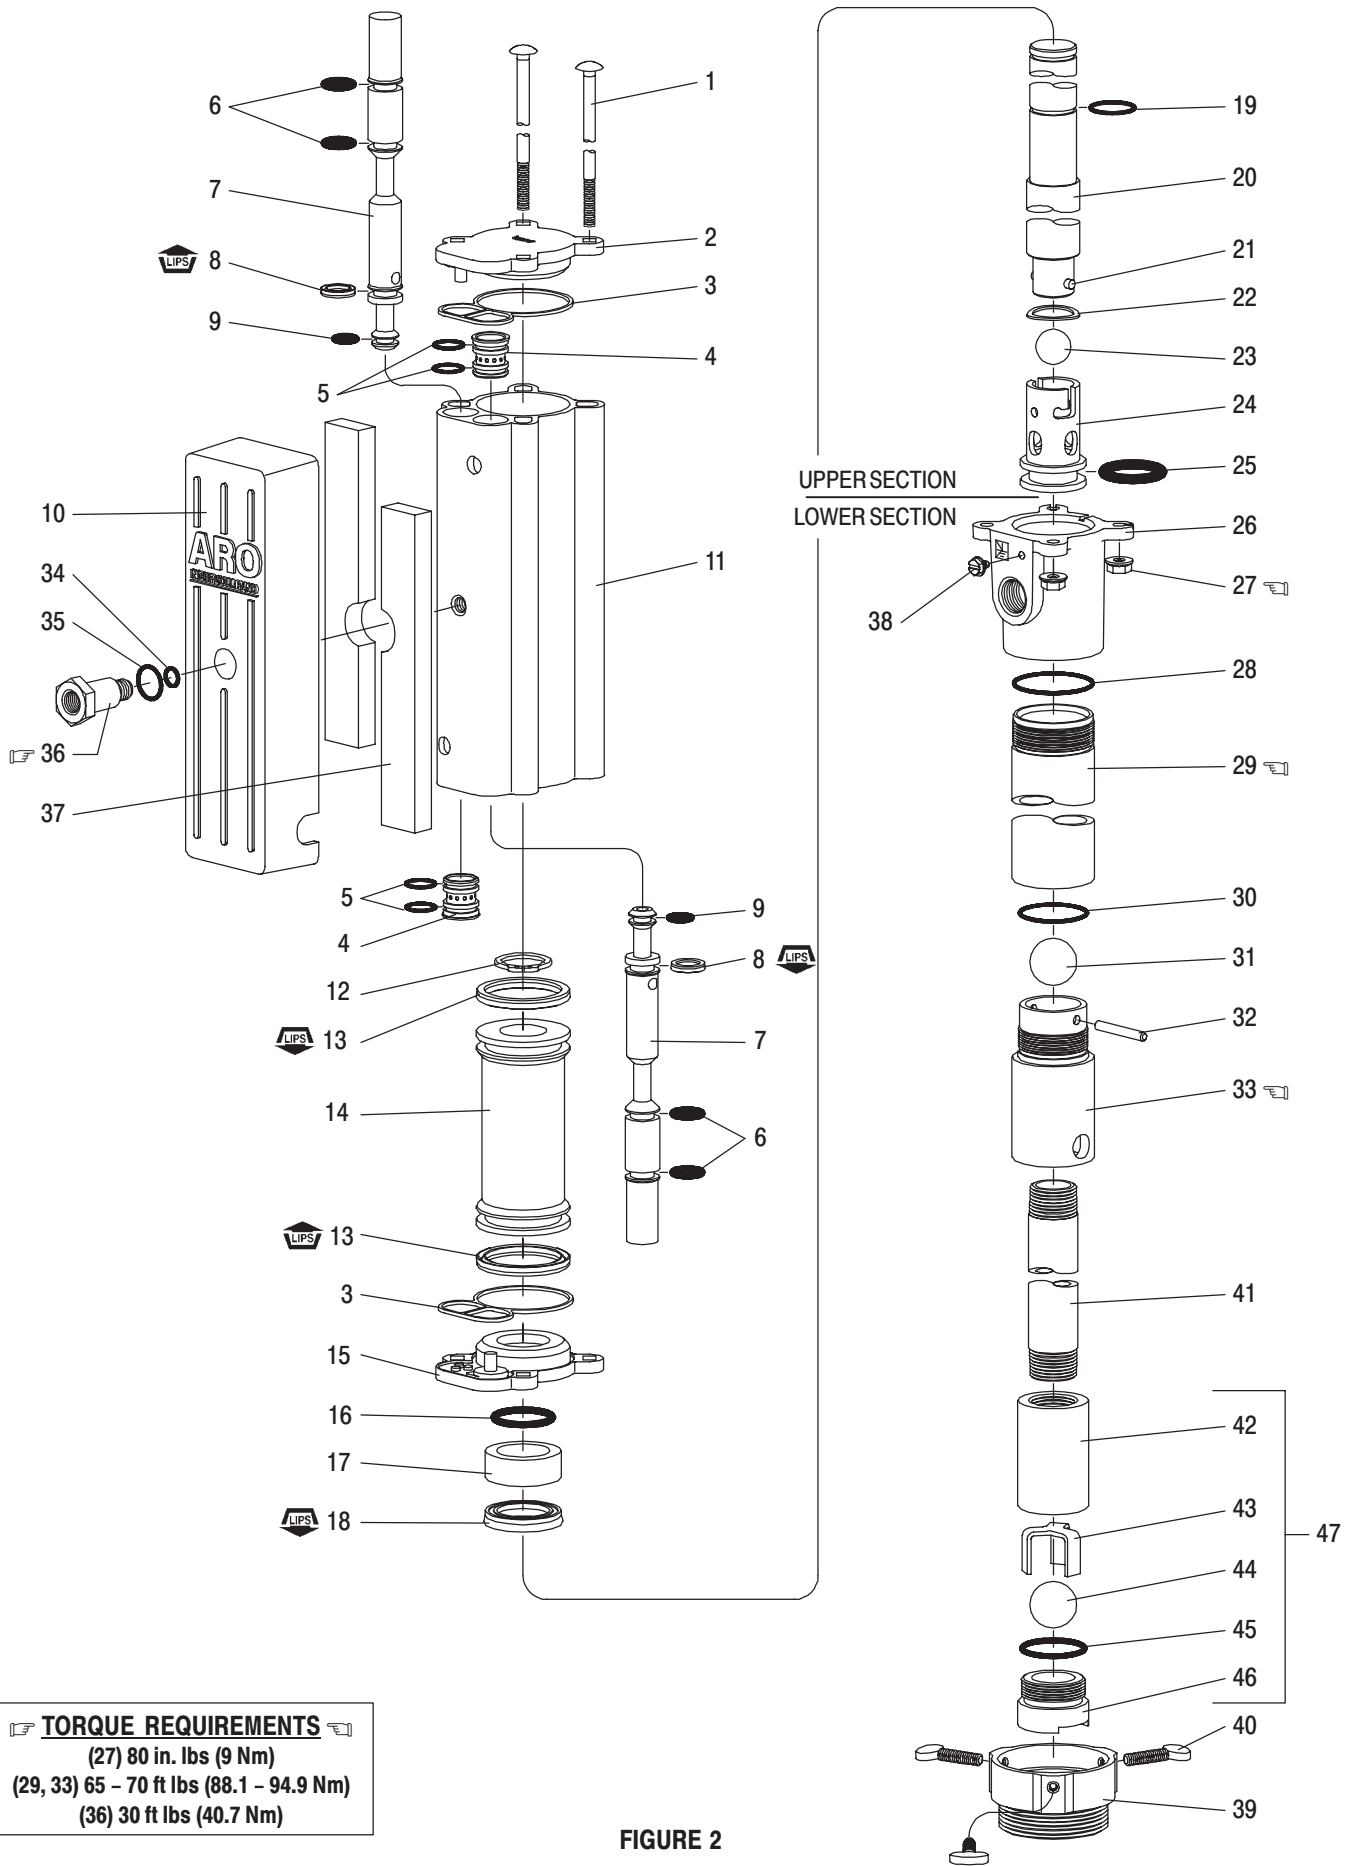

FIGURE 2
DISASSEMBLY - All threads are right hand. Refer to figure 2. These procedures are for the installation of repair kit parts. Disconnect air supply and relieve all system pressure prior to servicing. Carefully remove the parts, inspect parts for damage, nicks or excessive wear and determine if any parts will need replacement. Follow the three disassembly steps in the detail views below and place the pump on a clean bench.
Note: Refer to the illustration (Fig 2) for "U" cup lip seal direction.
1. Replace the seals on both the (7) spools and (4) sleeves.
2. Locate the valve chamber on the (11) cylinder where the 3/8" dia. hole is located and install one of the (4) sleeves. Insert the (7) spool from the opposite end. Next, install the remaining sleeve and spool.
3. Replace the (3) track gasket and install (2) cap.
4. Replace the (13) piston "U" cups (refer to figure 2 for proper orientation). Replace the (19) "O" ring and assemble (14) piston to (20) piston rod and retain with (12) retaining ring.
6. Replace the (3) track gasket and install the (15) cap. Install the (16) "O" ring onto the piston rod, replace (17) bushing and (18) packing.
7. Replace the (25) "O" ring and re-attach the (24) inner check.
8. Slide the pump assembly back into the (26) base / lower pump section. Press the sections together and align the air inlet and pump outlet as required and replace the four (1) bolts and (27) nuts (tighten to 80 in. lbs (9 Nm).